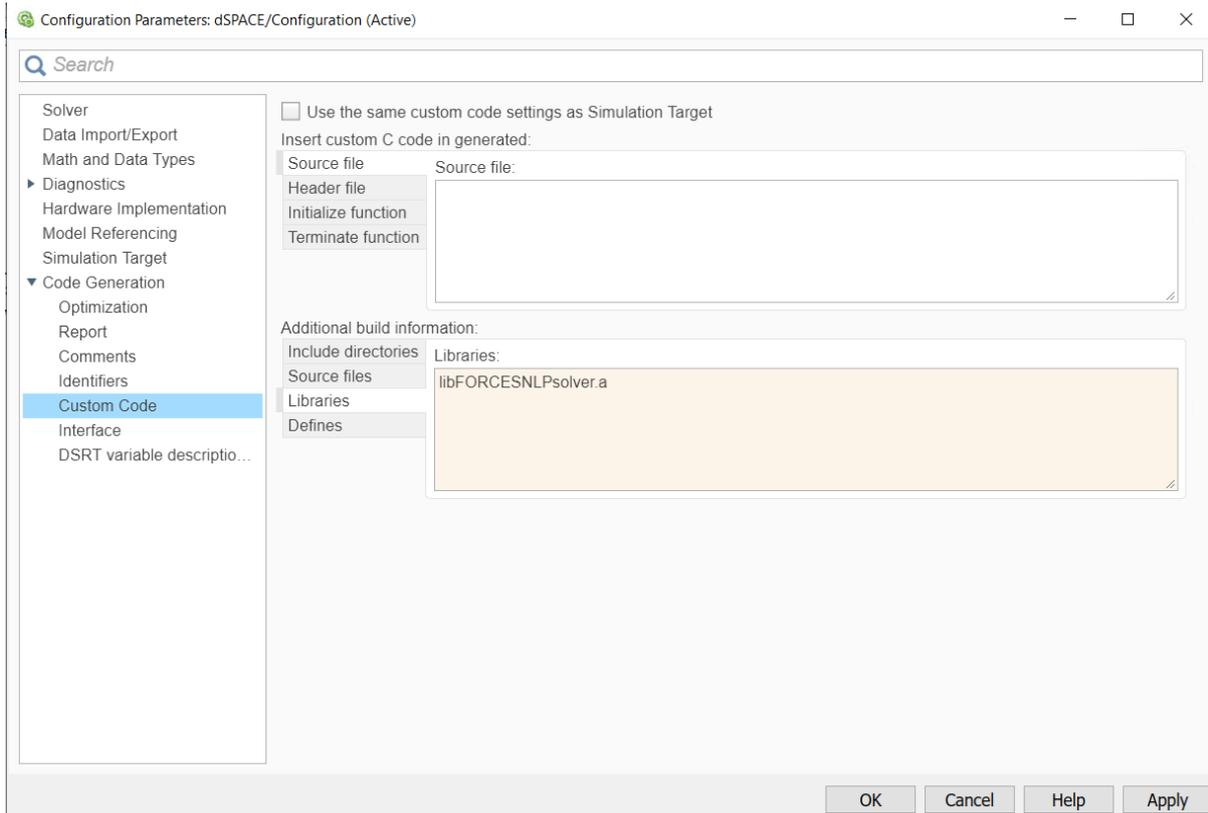

Figure 13.41: Add the libraries used for the code generation.
- 12) In the "Code Generation/Custom Code" tab, add the library file (see Figure 13.41):